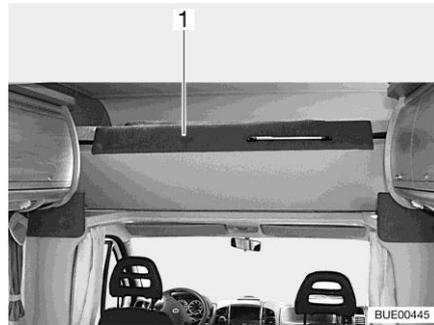

Fig. 103 Overcab bed, folded upwards
- Fold the front of the overcab bed (Fig. 103,1) upwards. The overcab bed is kept in the upper position by gas-pressure springs.